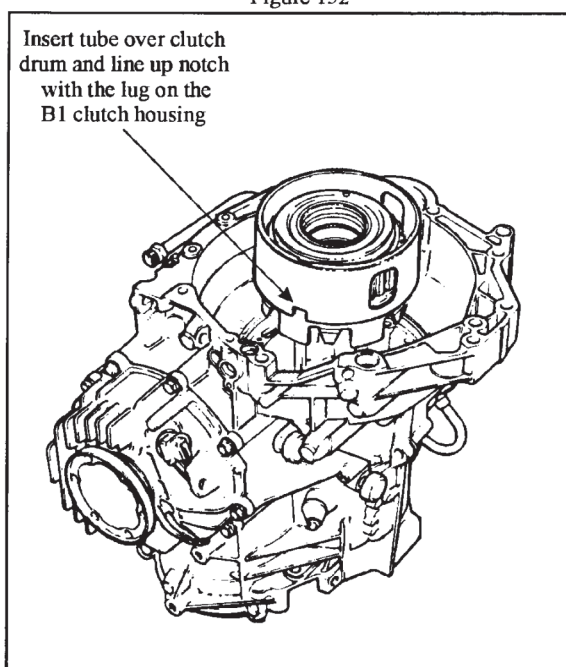

Figure 153
28. Install the K2 drum into the case, and twist until the clutches are splined onto the K1 drum (See Figure 153).
29. Insert the hollow supporting tube into the case over the K2 drum, and line up the notch in the tube with the lug on the B1 clutch housing (See Figure 153).